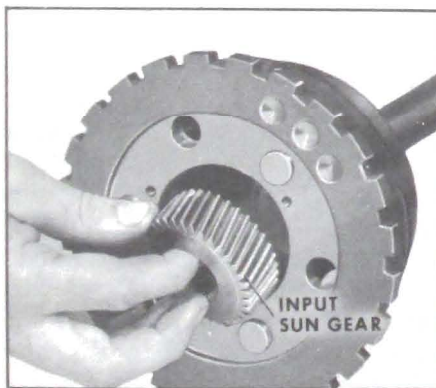

Figure 5-276
7. Install input sun gear into planet carrier. See Figure 5-276.